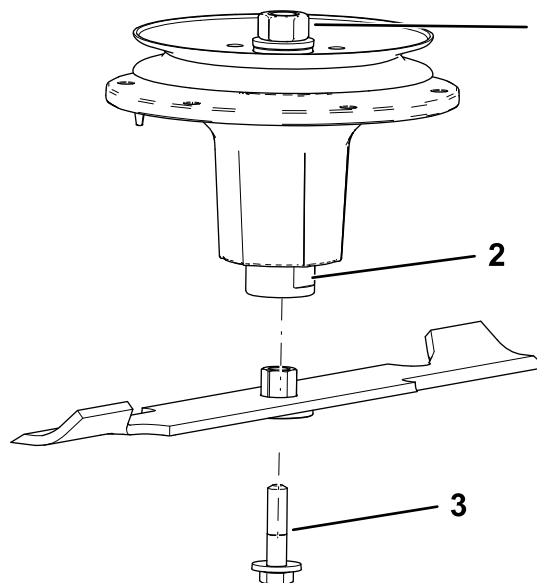

**Figure 78**
1. Install the bushing through the blade with the bushing flange on the bottom (grass) side of the blade (Figure 78).